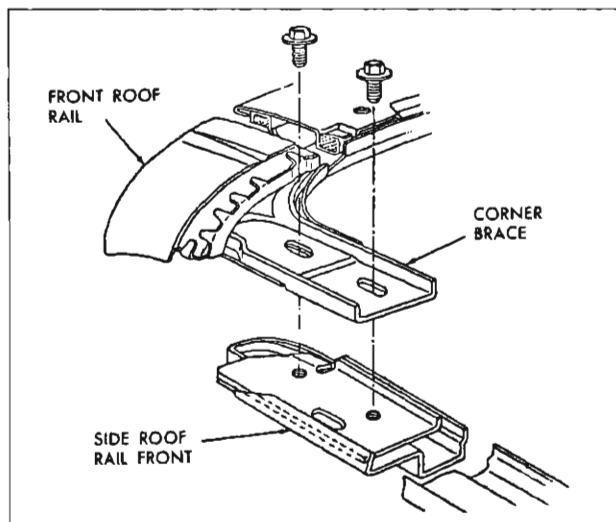

Fig. 108—Roof Rail Corner Brace Attachments
2. Loosen corner brace attaching bolts and adjust front roof rail fore or aft as required. Repeat on opposite side if necessary (fig. 108).